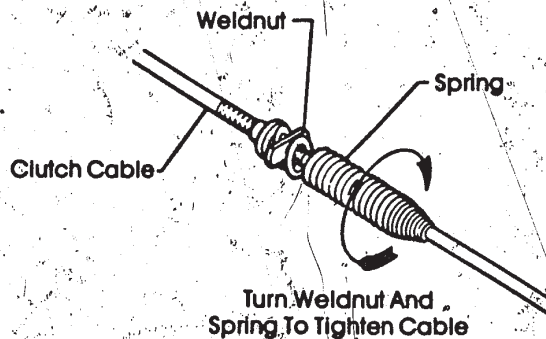

FIG. 26
- A. To tighten cable turn weldnut and spring further into threaded end of cable as shown in Fig. 26.
- B. To loosen cable turn weldnut and spring in opposite direction of arrow in Fig. 26.